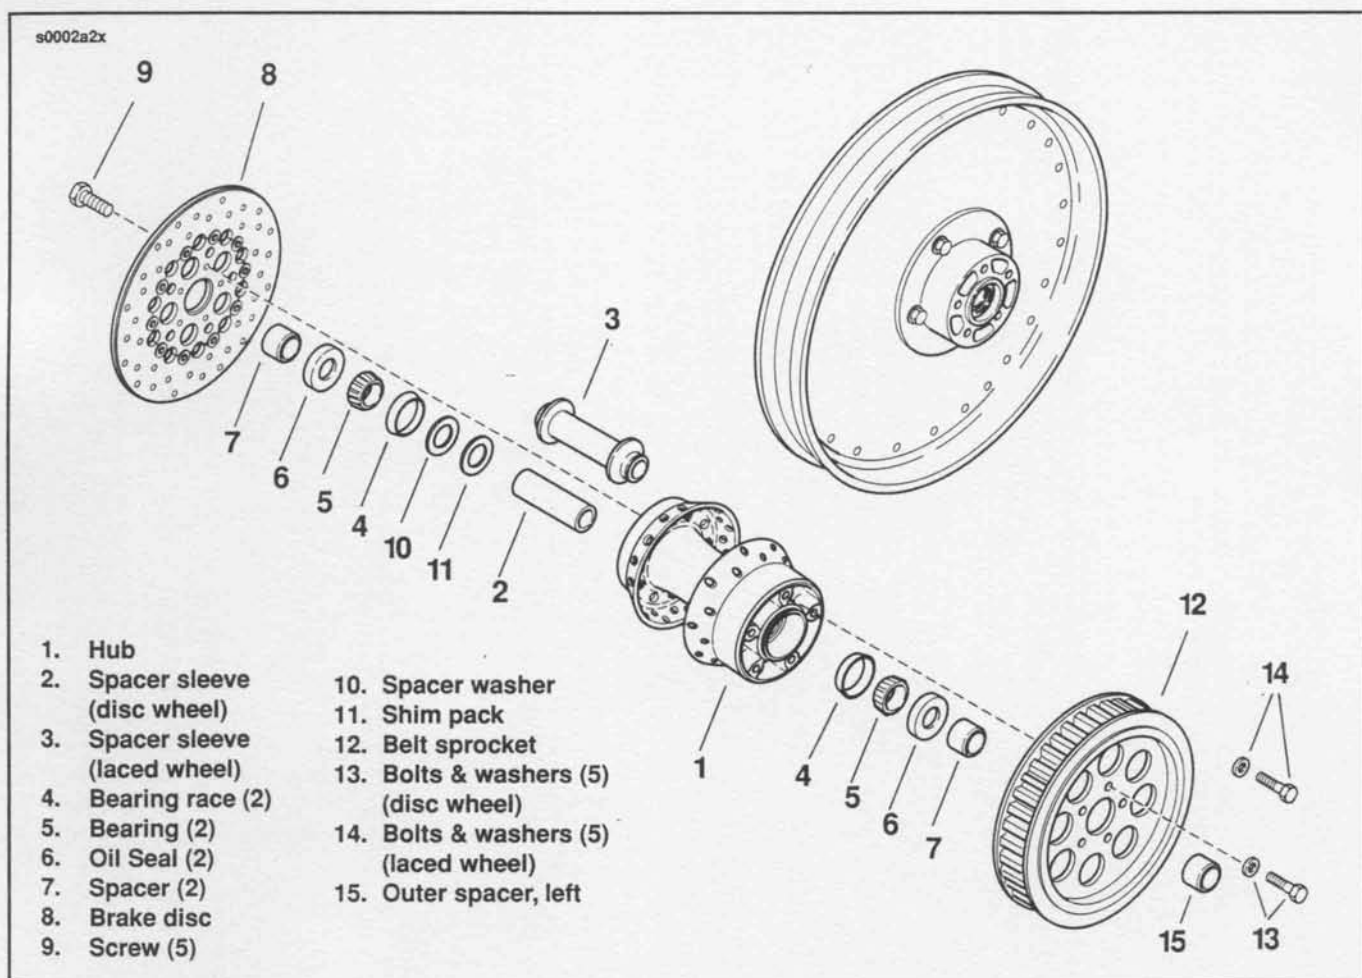

Figure 2-9. Rear Wheel/Hub
1. See Figure 2-9. Remove the spacer (7), seal (6), bearing cone (5), spacer washer (10), shim pack (11) and spacer sleeve (2) or (3) from the right side of the wheel.
2. Remove the brake disc screws (9). Remove brake disc (8).
3. Remove spacer (7), seal (6), and bearing cone (5) from the left side of the wheel.
4. Remove the belt sprocket bolts and washers (13 or 14) to remove belt sprocket (12).
5. If it is necessary to remove the bearing races (4), use WHEEL BEARING RACE REMOVER AND INSTALLER, Part No. HD-33071.
1. See Figure 2-9. Clean the disc (8) with Loctite CLEANING SOLVENT and install disc on the wheel with new T-45 Torx screws (9) Tighten screws to 30-45 ft-lbs (41-61 Nm).
3. Install spacer sleeve (2) or (3), shim pack (11) and spacer washer (10) in wheel.
3. See Figure 2-9. Coat axle with Loctite ANTI-SEIZE LUBRICANT and from right side carefully slide axle and belt adjuster collar through right rear fork, rear caliper bracket, spacer (7) and brake disc (8).
4. Continue sliding axle through wheel, spacer (7) on left side of wheel, and sprocket (12).
5. Place spacer (15) between sprocket (12) and inside of left side of rear fork.
6. Slide axle through spacer (15), belt adjuster collar and left side of rear fork.
The shim pack, Item 11 in Figure 2-9, controls the amount of wheel bearing end play.